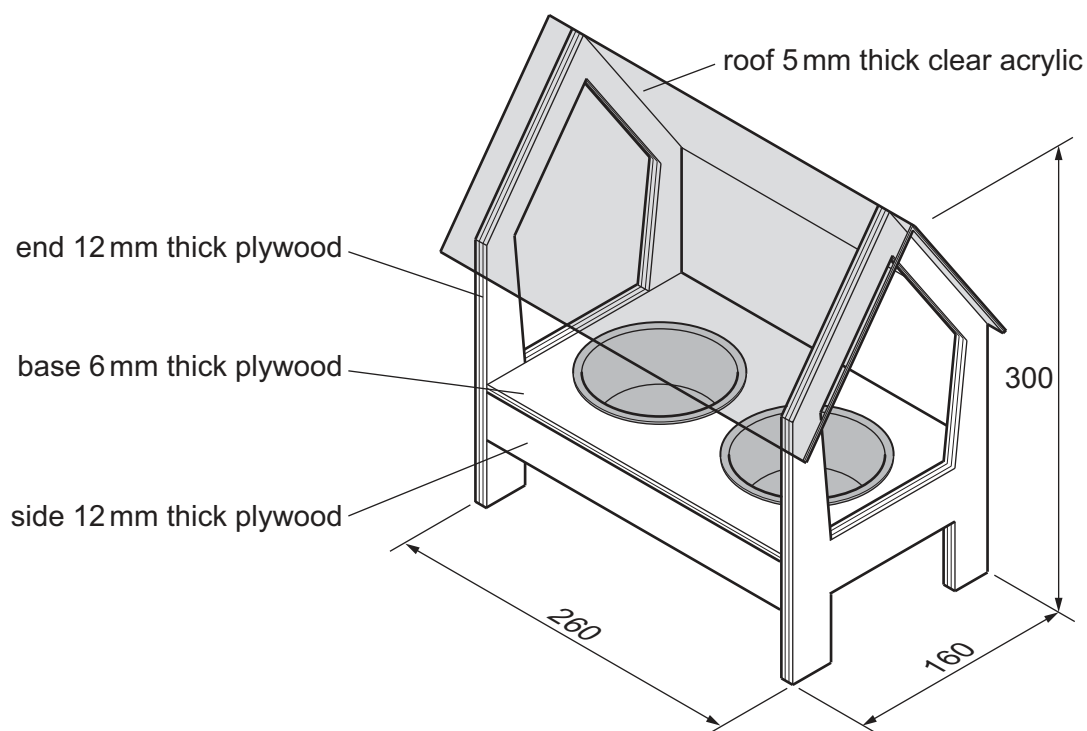
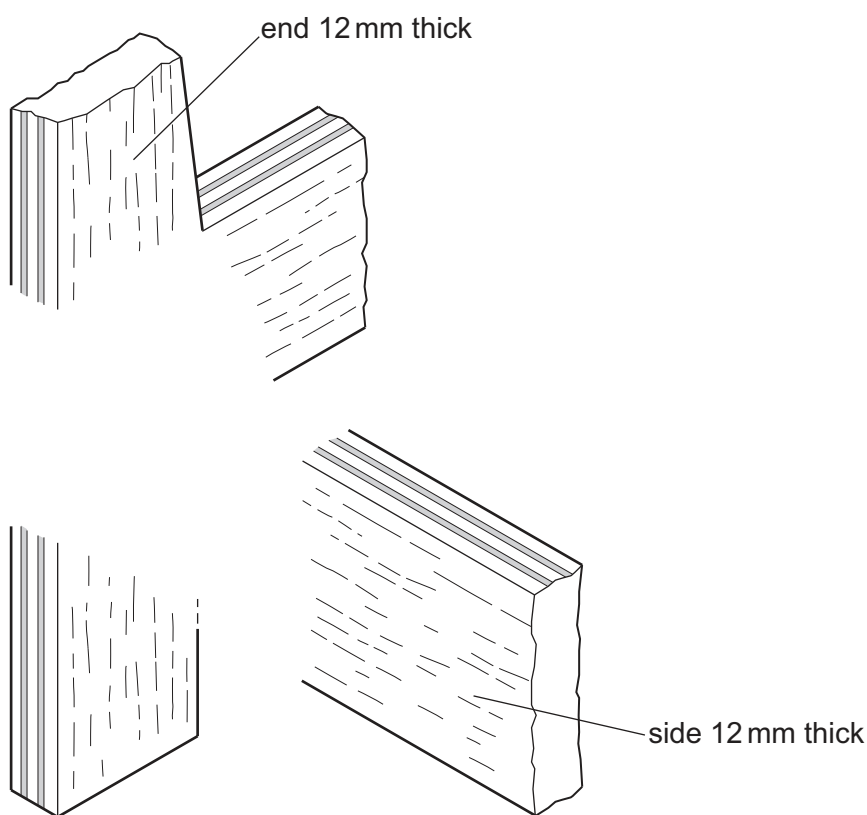

Figure 12.1
**Figure 12.3**
- 12 Figure 12.1 shows a bird feeder that will be fitted on the top of a fence. Two plastic bowls fit into the base of the feeder.
- (c) Figure 12.3 shows where one end and one side of the bird feeder in Figure 12.1 will be joined together.
Add sketches and notes to Figure 12.3 to show how the side could be joined to the end. Name the joint used.